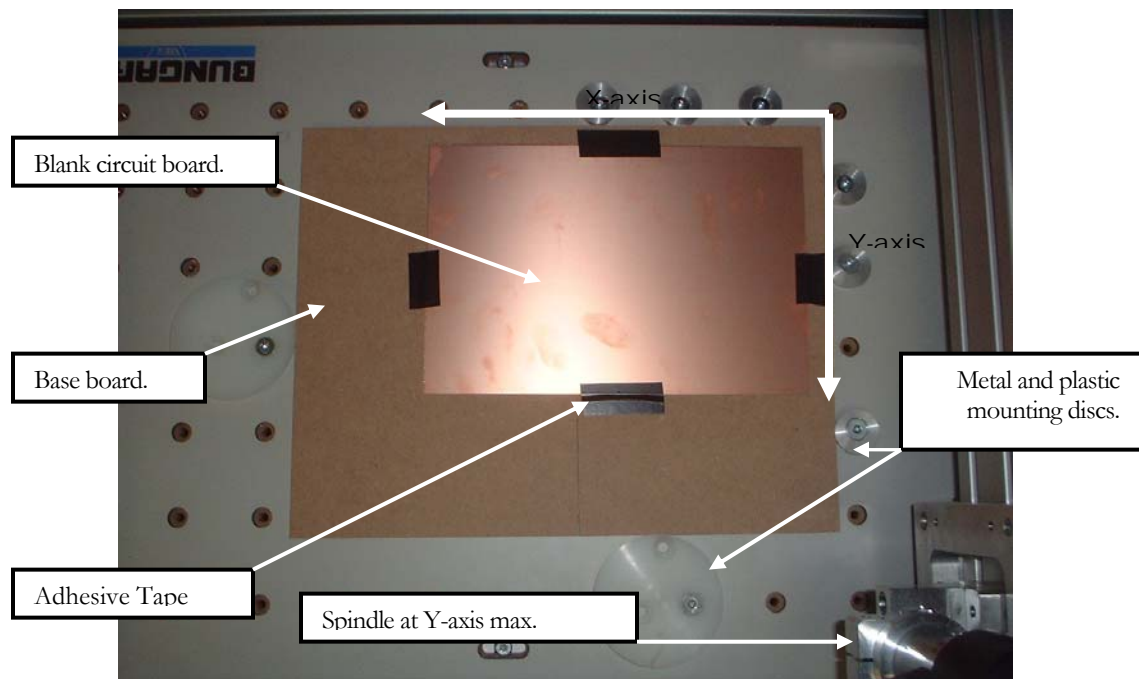

Figure 2 – Blank circuit board secured to base board.
2. Place the base board (included) onto the milling table and secure it by pressing the plastic and metal disks against sides of backing board and tightening the screws in eccentric mounting holes. See Figure 2.